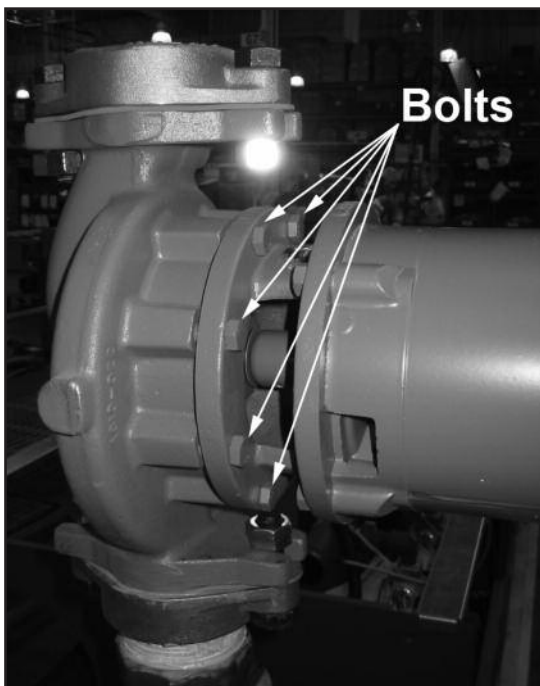

Fig. 35: Remove the eight bolts holding the pump body in place
1. Loosen and remove the eight (8) 9/16" bolts holding the pump body in place. See Fig. 35.